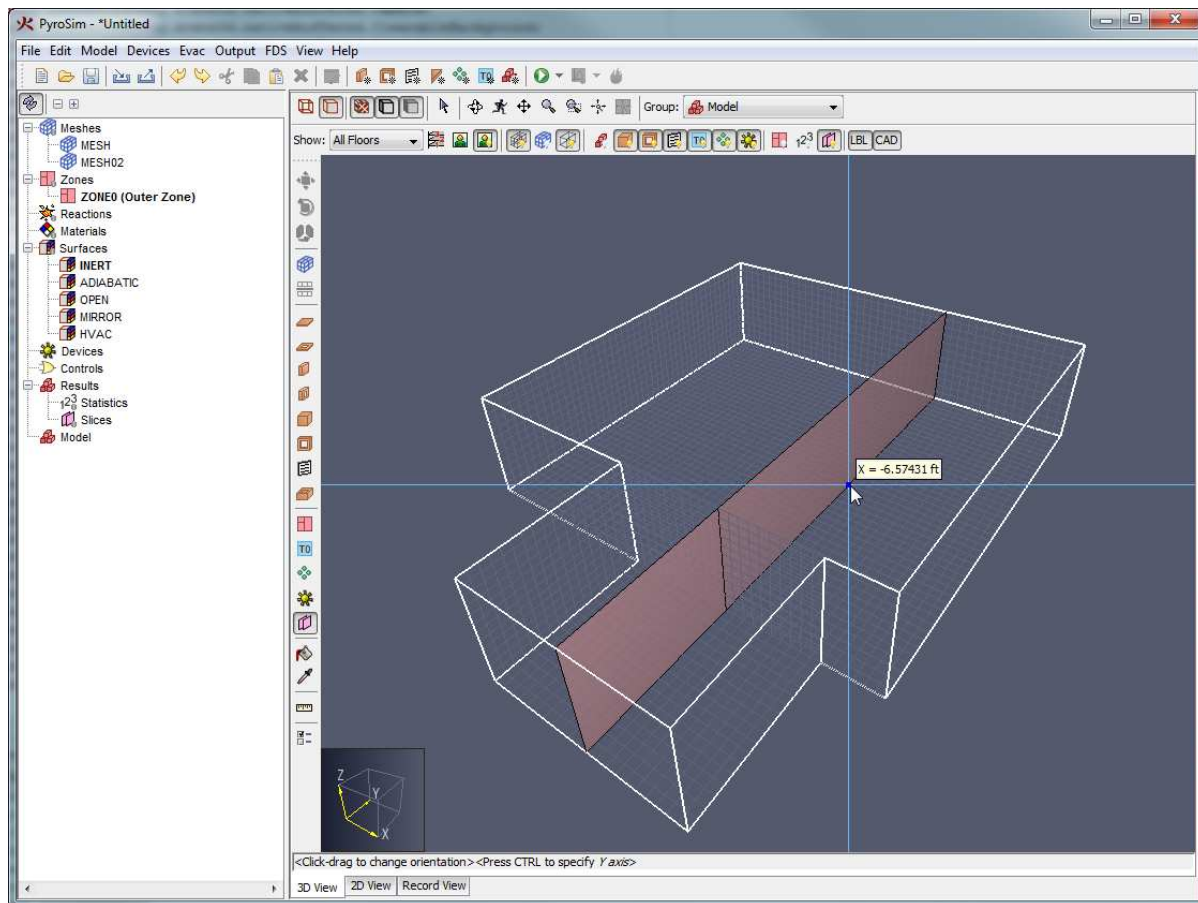

Figure 88. Drawing a slice with the planar slice tool
3. Move the cursor to the desired slice location. A preview slice will be displayed as shown in Figure 88.